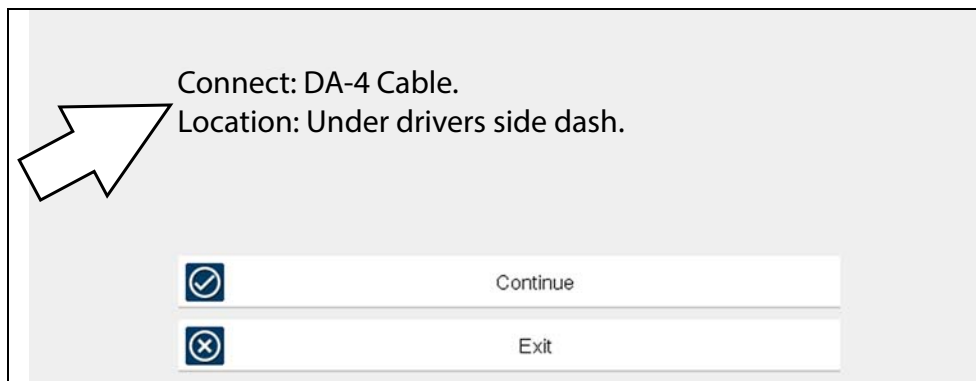

Figure 6-2 Vehicle connection data cable message
*On-screen cable and adapter connection instructions may be provided while using the Scanner and OBD-II/EOBD functions. The instructions may also include the location of the vehicle DLC (Figure 6-2).*